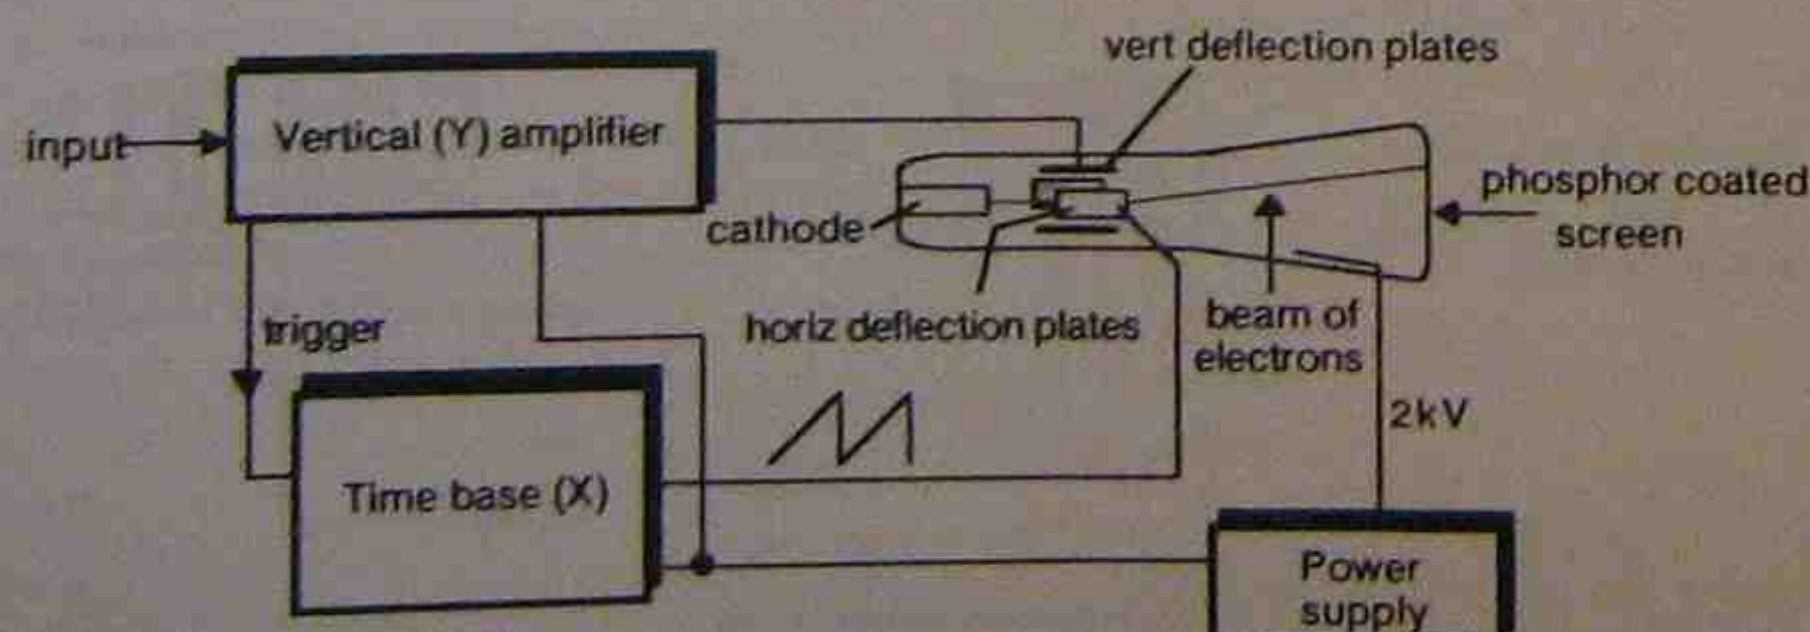

Fig.1: Block diagram of a CRO
Fig.1 shows a simplified block diagram of a CRO. The basic sections are the CRO tube, the power supply, the vertical (or Y) amplifier and the time base (X). Most CROs are dual trace, meaning they can display two signals simultaneously. However, for the purposes of explanation, a single trace CRO is assumed.
The time base, or horizontal section consists of a sweep generator (oscillator) and a horizontal amplifier which connects to the deflection plates that control the sideways (X) movement of the beam. The beam is moved across the screen from left to right at a preselected speed, then is returned to the left hand side (retrace) very quickly. During retrace, the beam is turned off so the retrace is invisible. The required waveform is therefore a sawtooth, as shown in Fig.1.